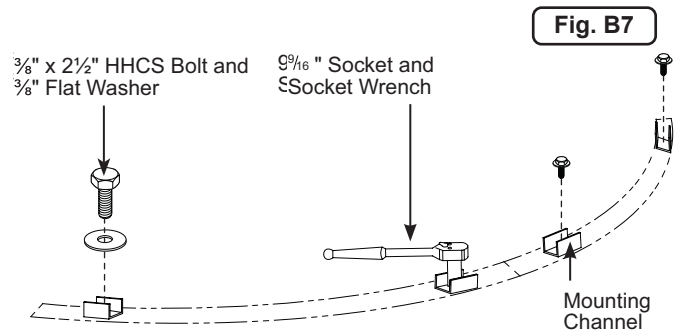

Fig. B7
8. Place one lower mounting channel over a mounting hole. Insert and tighten one $\frac{3}{8}$ " x $2\frac{1}{2}$ " anchor bolt and a washer. Use a socket wrench and $\frac{9}{16}$ " socket to tighten the bolts (Figure B7). Repeat this step for the remaining lower mounting channels and mounting hardware.